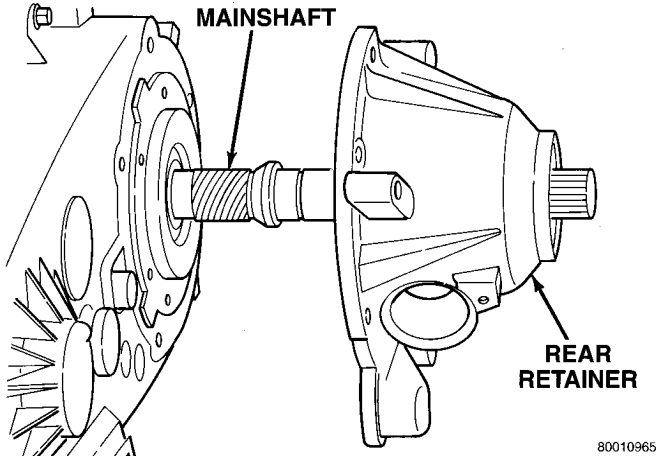

Fig. 14 Rear Retainer Removal
- (6) Remove speedometer adapter.
- (7) Remove rear retainer bolts.
- (8) Remove rear retainer. Tap retainer with mallet and pry upward to break sealer bead. Then slide retainer off case and output shaft (Fig. 14).